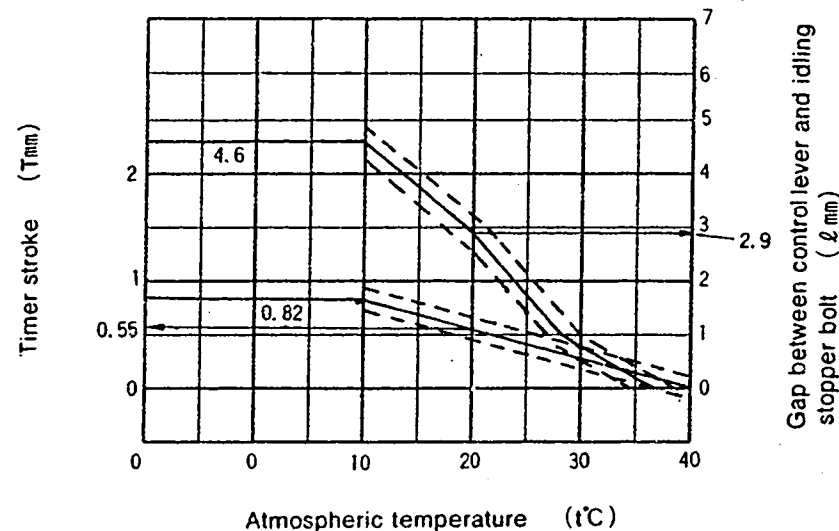

Fig. 2
1. Calculate the timer stroke from Fig. 2 according to the atmospheric temperature at the time of adjustment.
Formula for calculating Fig. 2 :
1. Calculate the block gauge dimension  $l \pm 0.05\text{mm}$  from Fig. 2 according to the atmospheric temperature at the time of adjustment.
2. Insert the block gauge (thickness gauge) selected in Step(1) above between the bracket and the idling stopper bolt.